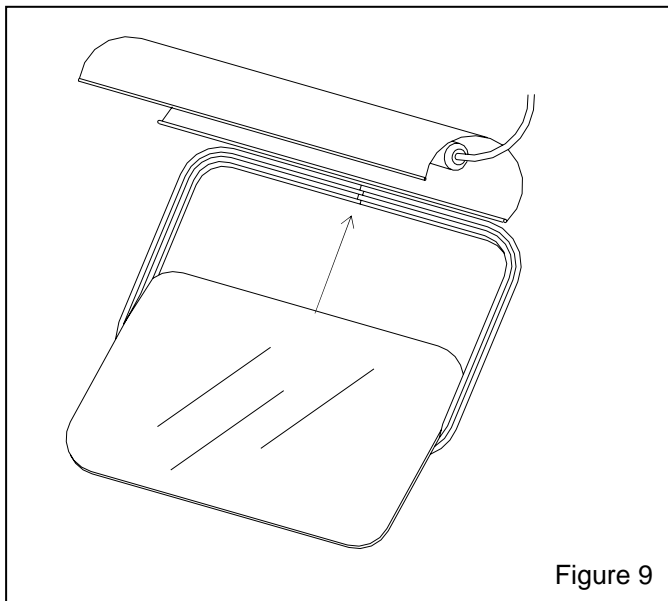

Figure 9
**6.3.6.** Spray silicone lubricant into the window channel (wide channel) on the molding, and slide the window into the channel, as shown in Figure 9. Place an arm into a glove to support the top edge of the bottom side of the window with one hand, while guiding the top edge into the molding with the other.